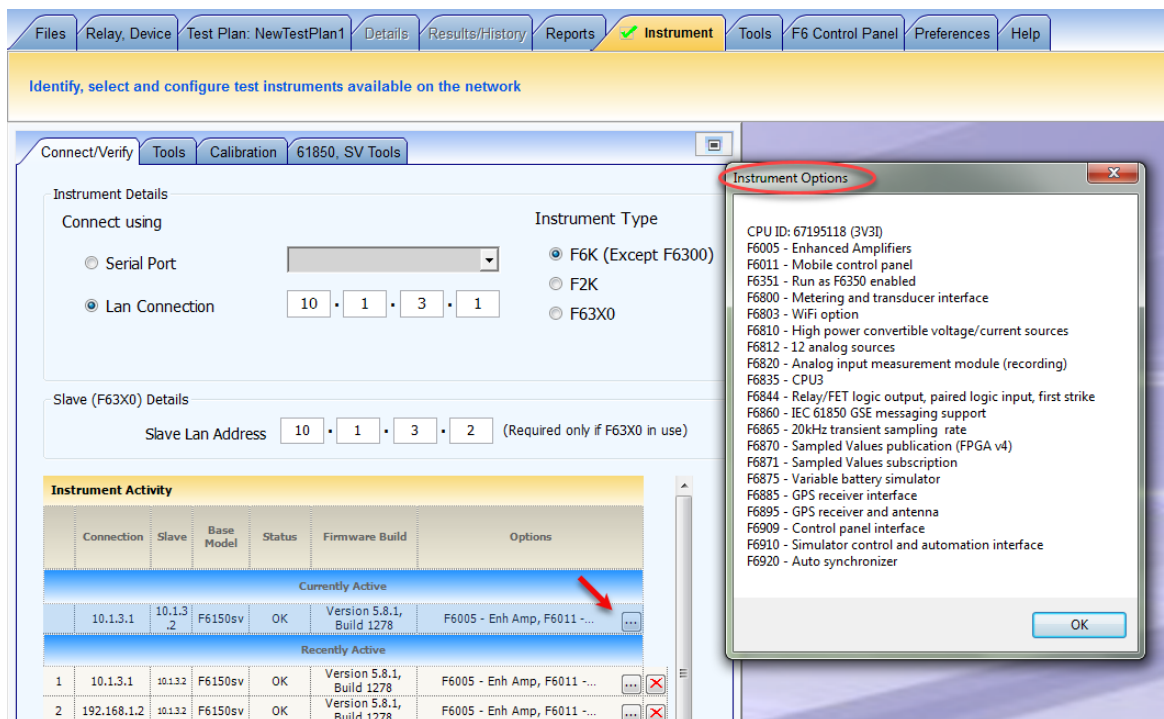

Figure 5. F6150 instrument options before firmware update
19) Click the box with the ellipsis (three dots) to view the instrument options (see Figure 5)